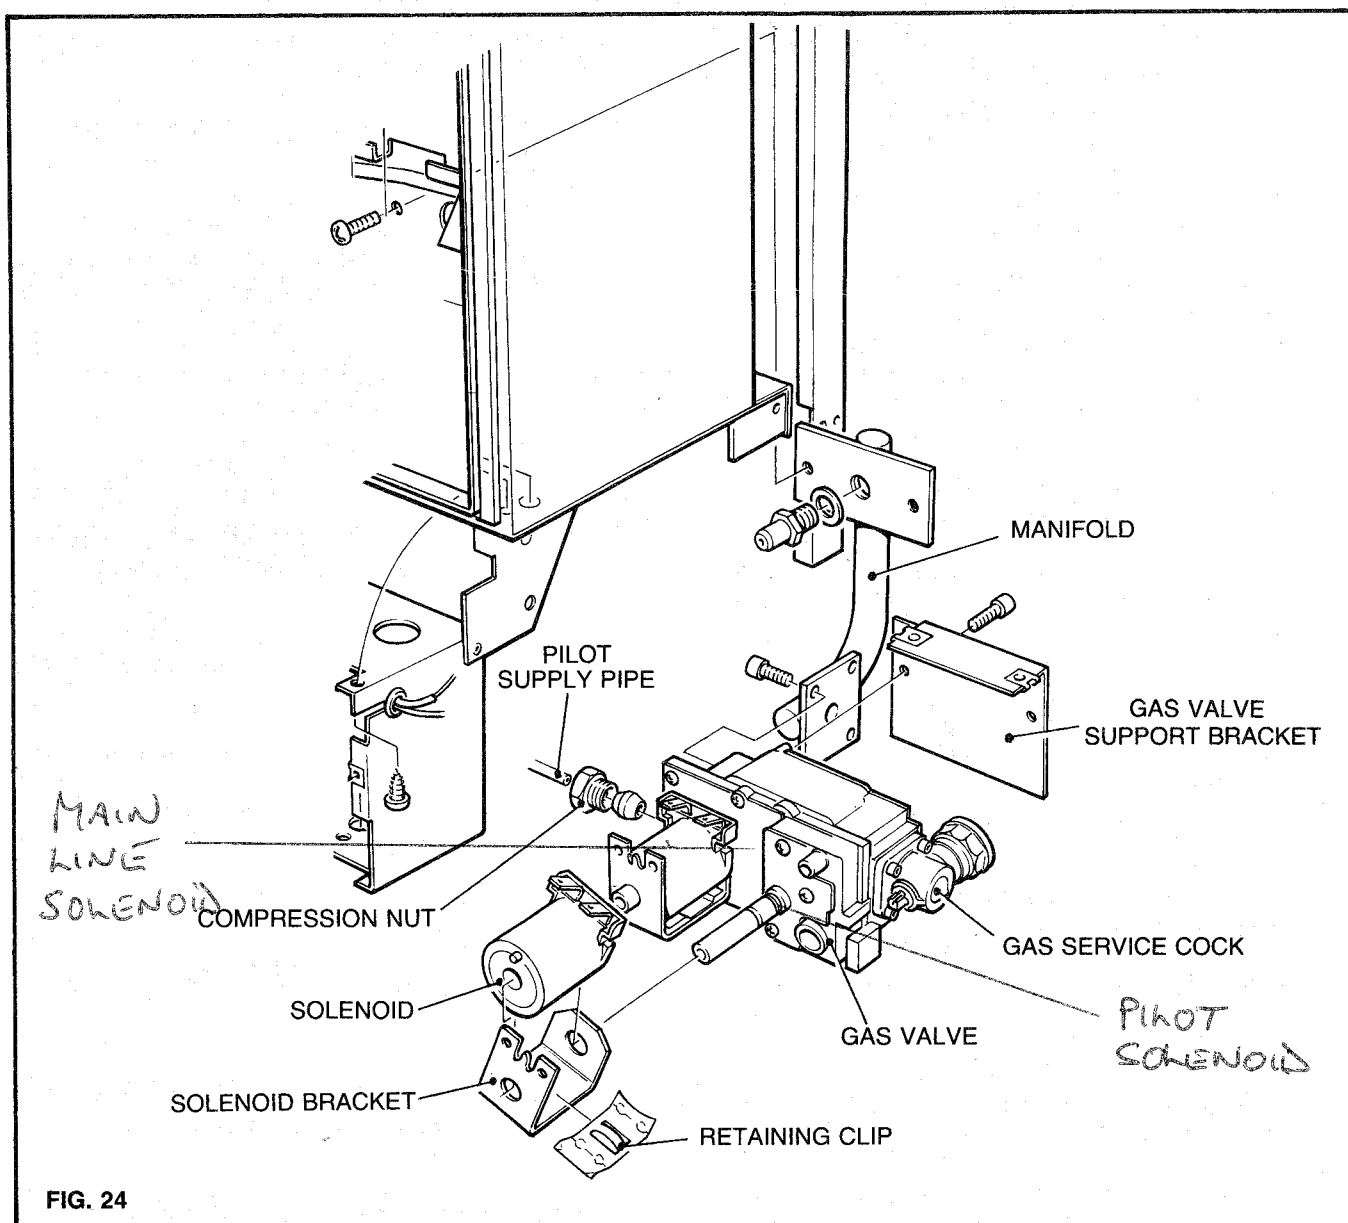

FIG. 24
8.7 TO REPLACE THE GAS VALVE (Fig. 24)
8.13 TO REPLACE ONE OR BOTH OF THE GAS VALVE SOLENOIDS (Fig. 24)